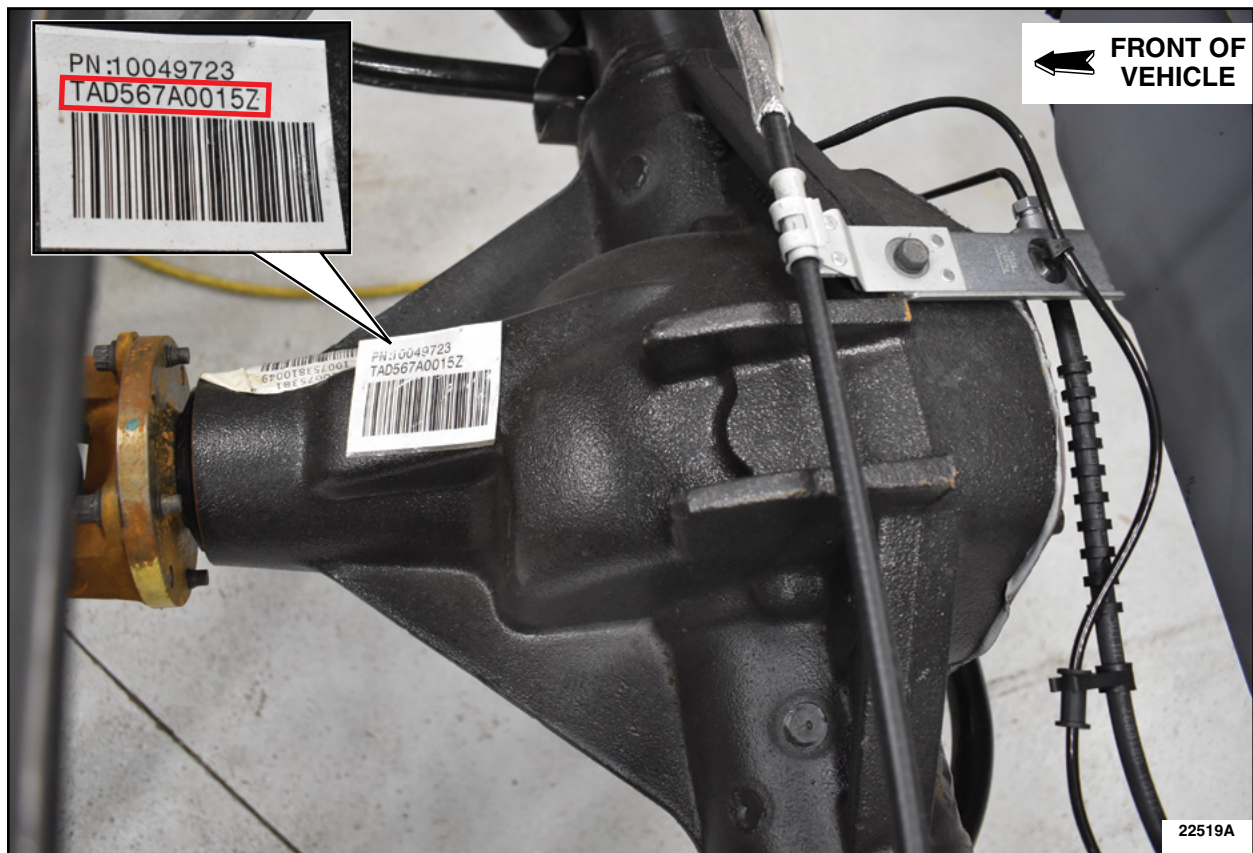

FIGURE 1
1. Inspect the part number tag located on top of the rear differential. See Figure 1. Compare that number to the list of suspect part numbers in Attachment IV. Does the number on the differential match a number listed in Attachment IV?